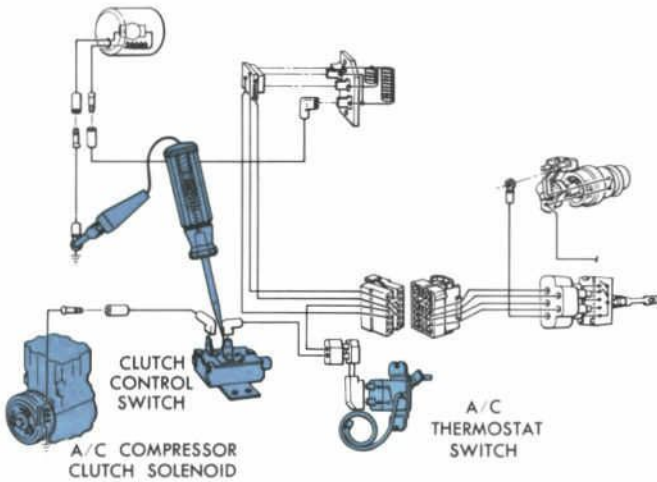

Fig. 14 — Testing Clutch Control Switch Continuity
2. If the light doesn't burn in step 1, move the probe to the opposite connection on the switch (Fig. 14). Now if it burns, the switch must be misadjusted or damaged. Repair or replace it as required.